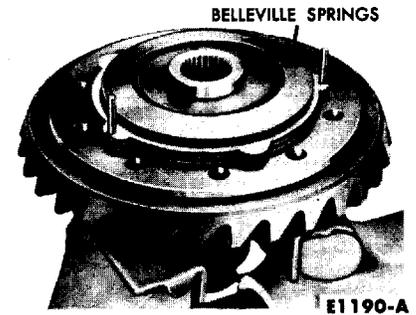

FIG. 21—Belleville Spring Installation
10. Place the two Belleville springs on the top steel plate. Both Belleville springs are assembled with their concave sides down (Fig. 21). Carefully center the Belleville springs so that they will fit into the cover.